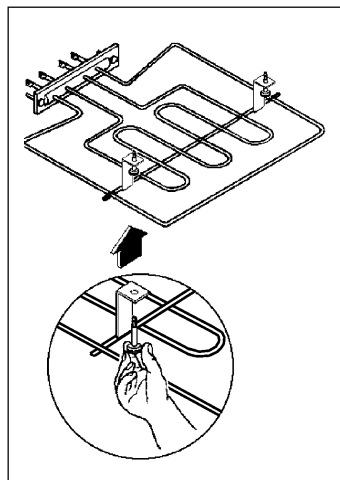

Fig. 10
- 1) Undo the screws which hold the grill in place (see fig. 10). When doing this operation for the first time, we recommend using a screwdriver.